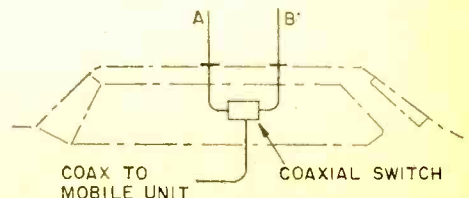

Figure 4. Coax switch routes RF energy to antenna A or B, depending upon vehicle direction.
**Antenna Size.** Here's the big advantage of Class E over Class D. A full quarter-wave whip antenna is only 12 inches long. On the Class D (27-MHz) band, a quarter-wave whip is nine feet long. Even a loaded whip is about four feet long. Fig. 4 shows the big difference.
apart. In the 220-MHz band, they need to be only approximately one foot apart. Long ago, the New Jersey Turnpike police cars were equipped with a pair of 18-inch whip antennas spaced about 18 inches apart. By means of a switch, as shown in Fig. 4, either whip can be the antenna and the other a reflector. This makes it possible to improve communication in either the forward or reverse direction. Imagine what CBers would come up with!